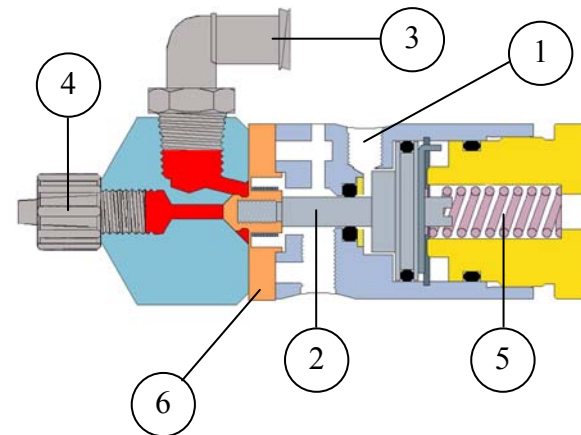

Figure 3.0
5. THEORY OF OPERATION (Refer to figure 3.0)